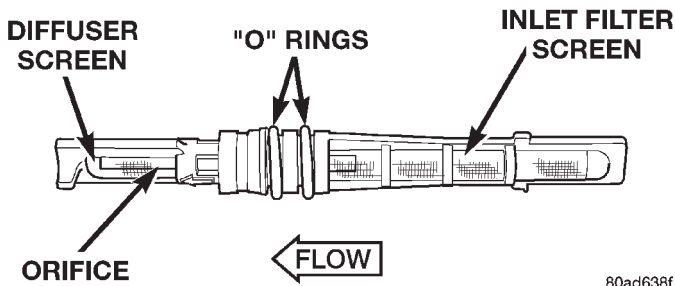

Fig. 31 Fixed Orifice Tube - Typical
(1) Install the fixed orifice tube in the liquid line. Be certain that it is oriented correctly within the refrigerant system flow (Fig. 31).